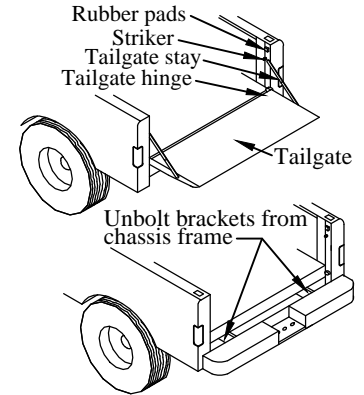

Figure 6: Remove Hardware.
- 1. Remove** the tailgate and tailgate hardware (Figure 6).